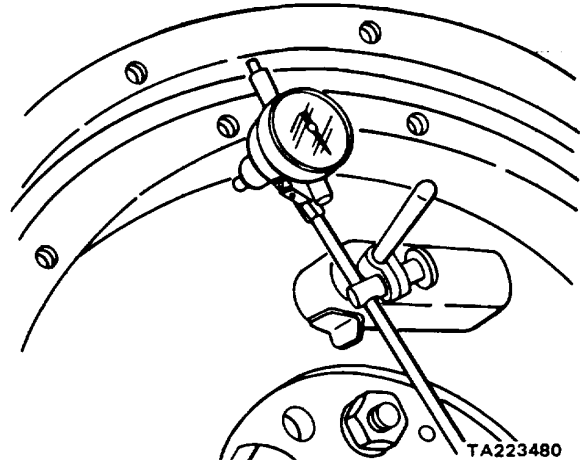

Figure 9-24. Checking Flywheel Housing Eccentricity.
f. Check eccentricity of the flywheel housing bore by mounting a dial indicator (fig. 9-24) and rotating the engine through one revolution. If the housing bore is eccentric more than 0.008 inch, loosen the flywheel housing mounting bolts and tap the housing into its proper position with a soft hammer. Tighten the bolts and recheck eccentricity of the housing bore. If the housing cannot be brought into true position, replace the housing.